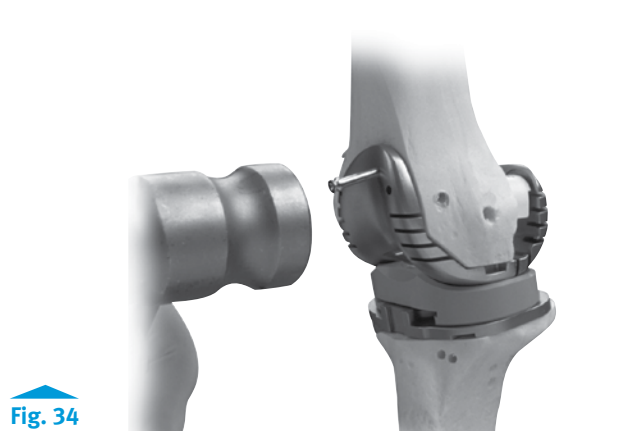

Fig. 34
- When both the flexion and extension gaps are balanced, and the limb alignment and joint line are accurate, pin the Femoral Provisional/Cutting Guide anteriorly using the Short-head Holding Pins (Fig. 34).